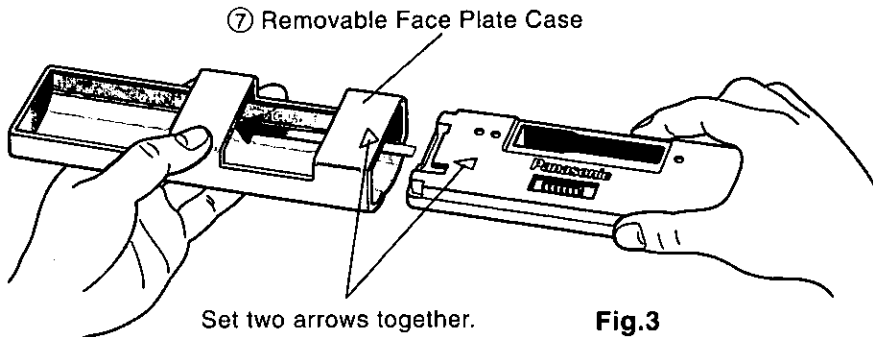

Fig.3
c) Remove the unit pulling with both hands. (Fig. 3)
- ④ As shown in Fig.3, insert the removable face plate with the arrow pointing toward the removable face plate case until you hear a "click". Keep the removable face plate in the case. Then, you can bring the plate safely.